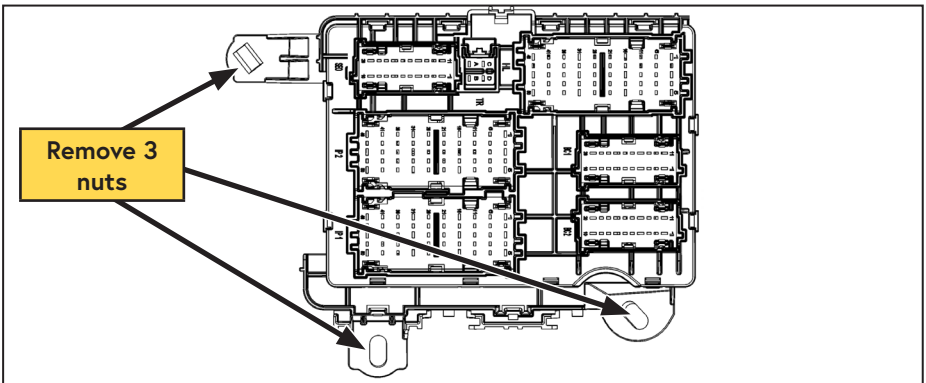

Figure 40 — Accessing the rear of the ICEM
- Remove the 3 nuts securing the module (Figure 40).